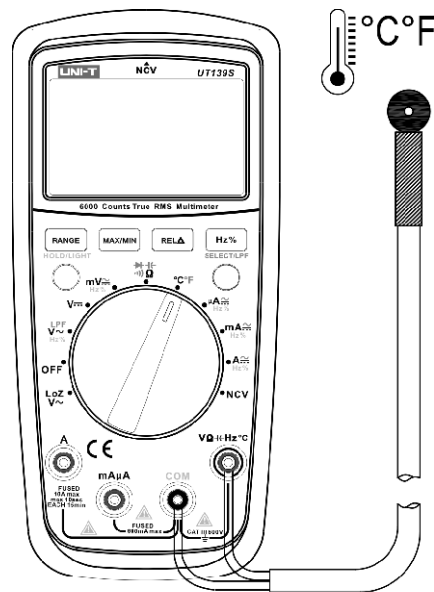

Figure 8
7. Temperature measurement (see figure 8)